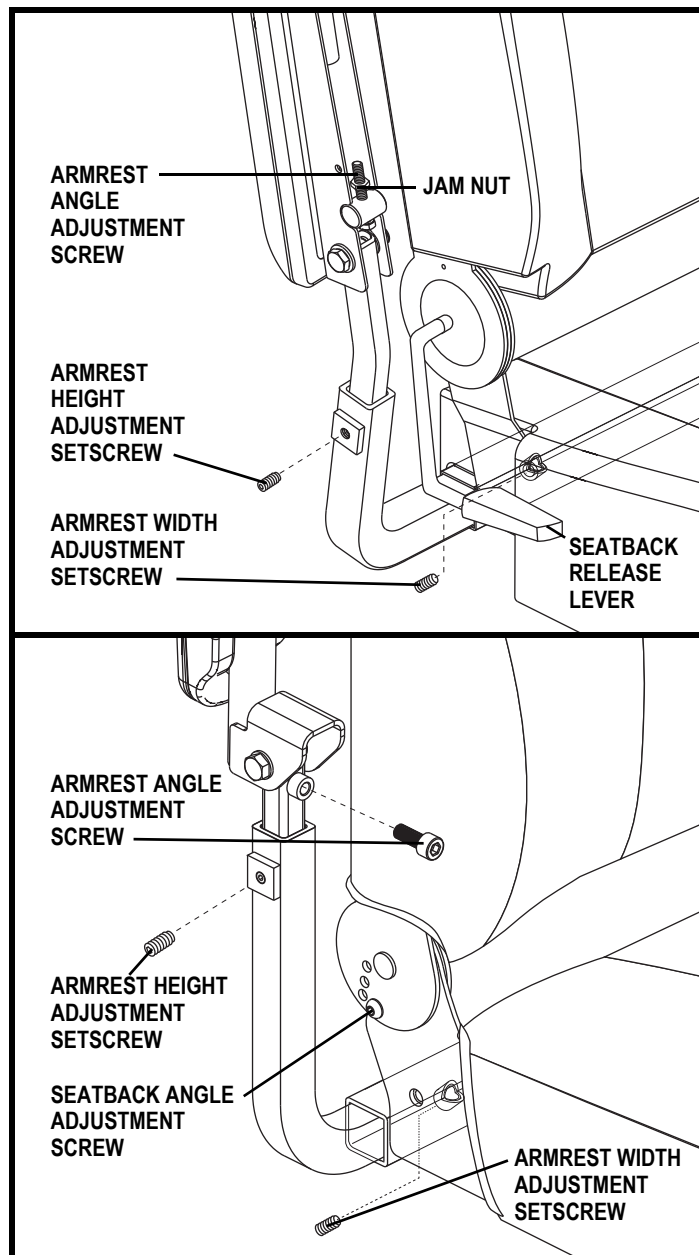

Figure 10. Armrest and Seatback Adjustments
If your power chair is equipped with a manual recline seatback, you can adjust the seatback angle using either hardware or the seatback release lever. See figure 10.
1. Locate the armrest width adjustment setscrew on each side of the armrest receiver bracket. See figure 10.
1. Loosen the setscrew on the armrest. See figure 10.